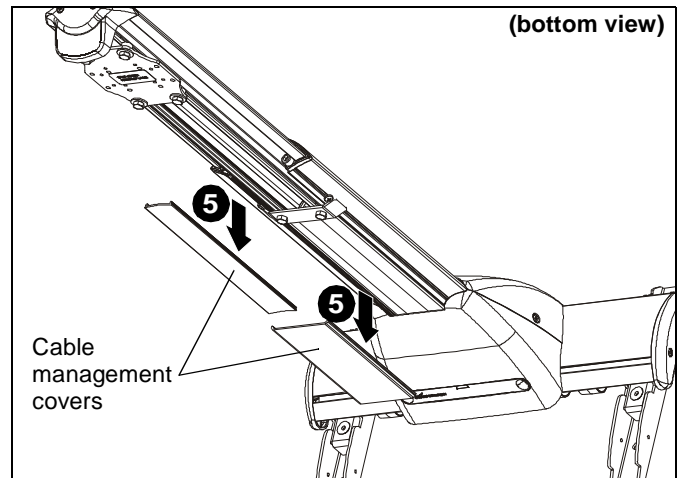

Figure 27
5. Remove cable management covers (if necessary) from short throw projector arm. (See Figure 27)